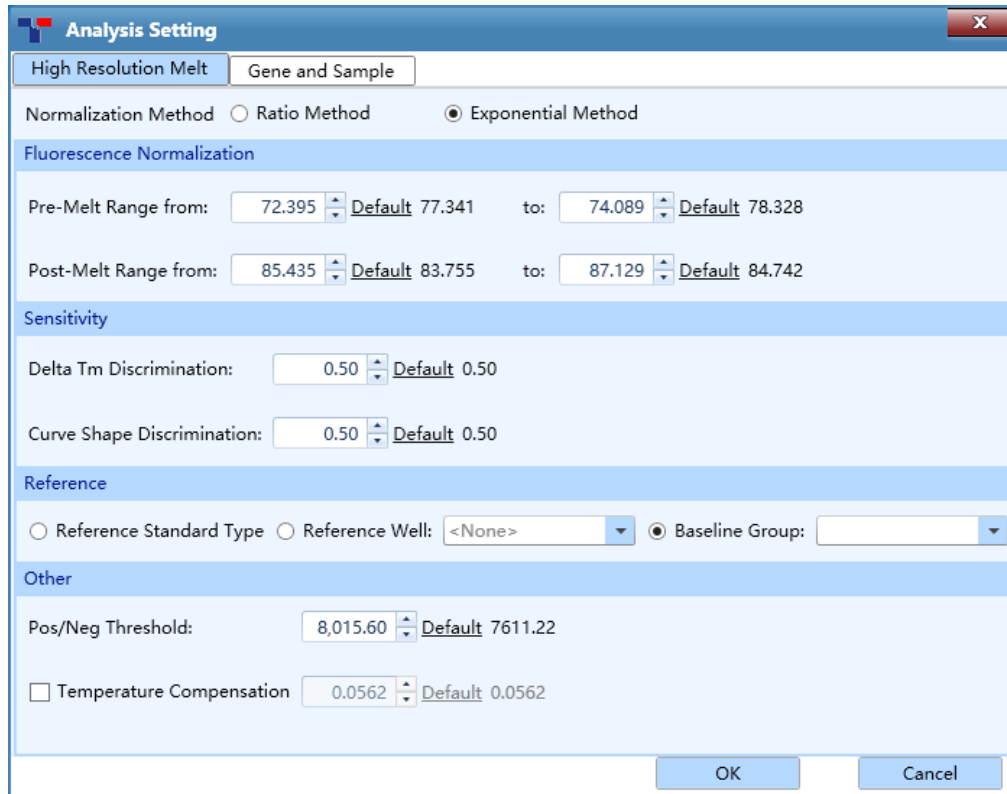

Figure D- 15. High Resolution Melting Analysis Setting interface - High Resolution Melting tab
I. **High Resolution Melting** tab: user can set the **Normalization Method, Fluorescence Normalization, Sensitivity, Reference** and **Other** parameters for the current analytical method as shown in figure D-15.